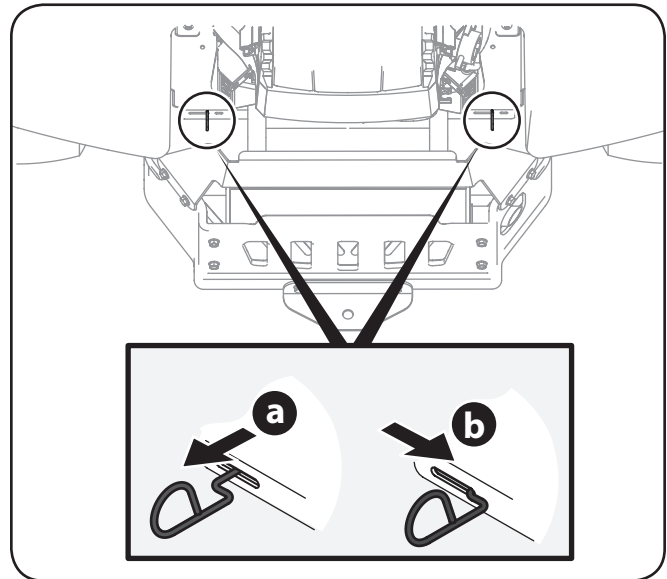

Figure 3-4
1. From the rear of the tractor, just inside the two rear tires, locate the transmission bypass rods. Refer to Figure 3-4.
2. Engage the transmission bypass rods, one on each side of the tractor, to move the tractor manually without starting it. The transmission bypass rods are located on the rear of the tractor, just inside each rear wheel. Engage the bypass rods by pulling each one out (a) and to the right (b) to lock it into place. See Figure 3-4.
3. Disengage the bypass rods by reversing steps a & b after moving the tractor. See Figure 3-4.